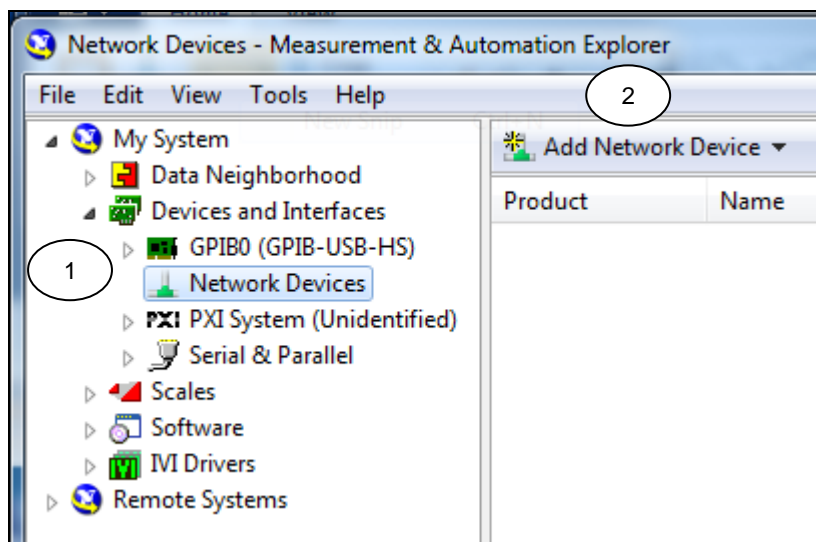

Fig 17
2. Select **Devices and Interfaces**>>**Select Network Devices** (1). Refer to Fig 17
3. Select **Add Network Device** (2) -> **VISA TCP/IP Resource...**